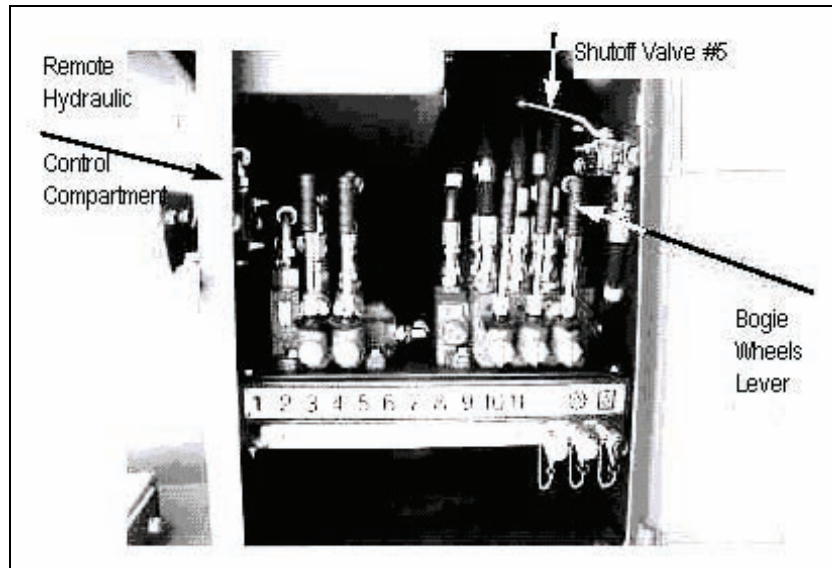

Figure 3-154. Opening Remote Hydraulic Control Compartment
q. Open remote hydraulic control compartment (see Figure 3-154).